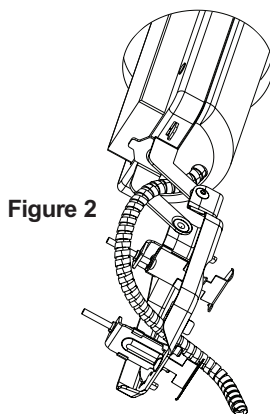

Figure 2
**Step 3.** Slide mounting frame, wiring compartment first, thru ceiling cut-out (Fig. 2).